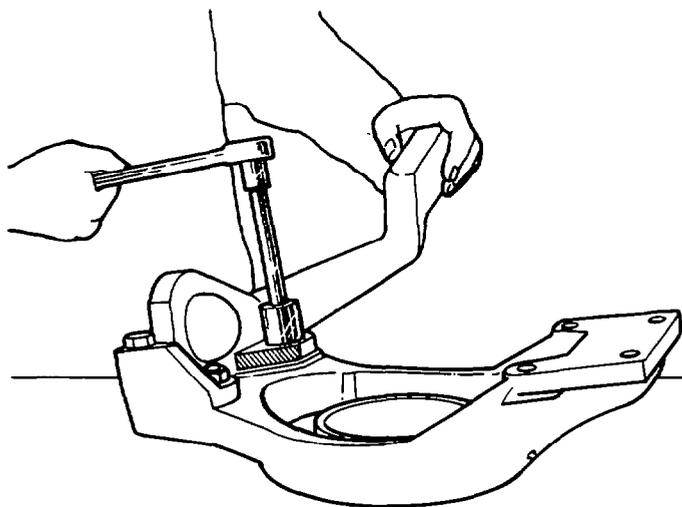

Fig. 375 — Fitting Steering Arm and Kingpin Bracket
- q. Position the bracket on the studs projecting from the spindle yoke, then fit the washers and locknuts; torque the nuts to 149 Nm (110 lb.ft) (see fig. 375).